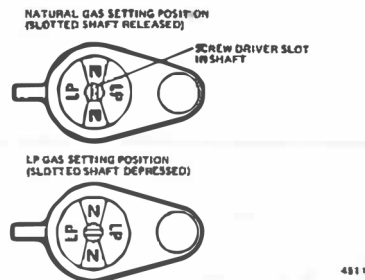

Fig. 9. Natural and LP gas settings, V5309.
The Nat, and LP gas settings are selected by positioning the slotted shaft as shown in Fig. 9.
- b. With a small screwdriver, depress and rotate the shaft so the slot is in line with "LP" stamped on the bushing (Fig. 9).
- b. With a small screwdriver, rotate the shaft so the slot is in line with "N" stamped on the bushing (Fig. 9).